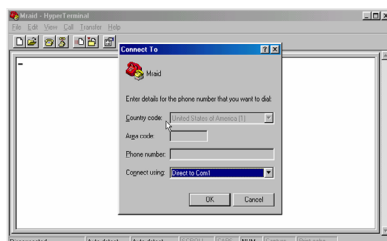

Figure 3.2-4
Step 4. Select an appropriate connecting port and then click "OK". (Figure 3.2-4)